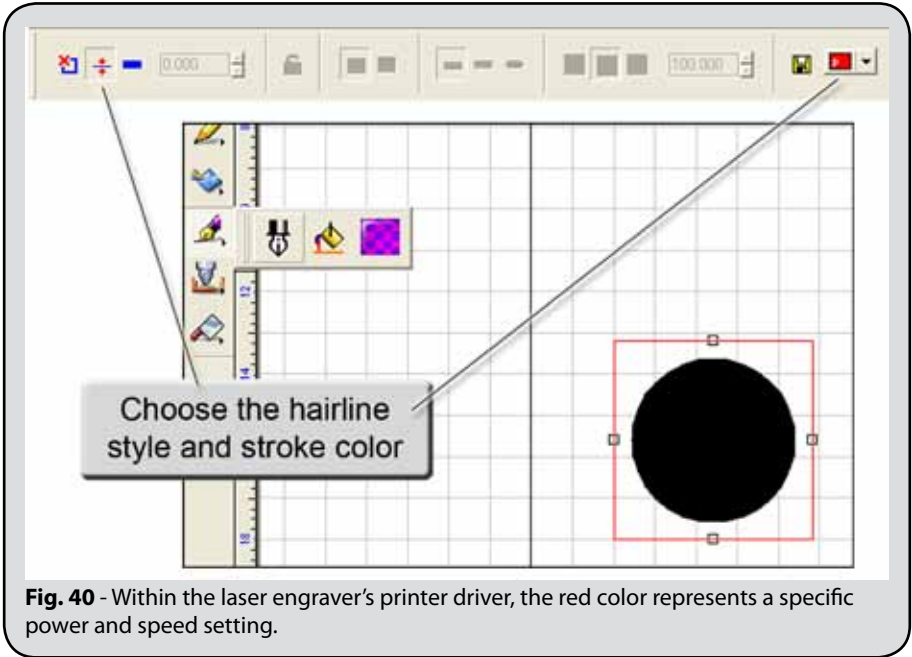

Fig. 40 - Within the laser engraver's printer driver, the red color represents a specific power and speed setting.
7. In the SmartBar, choose a **Hairline** style, and set a red stroke color (Fig. 40).